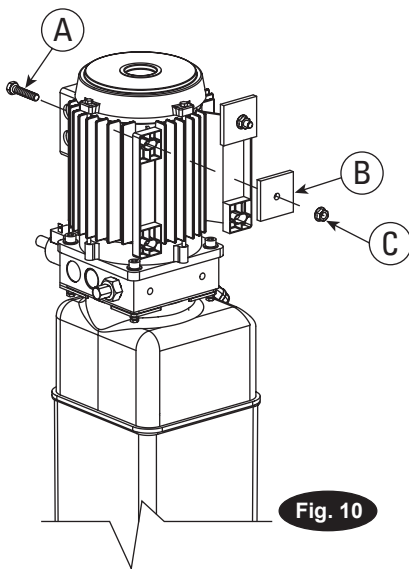

Fig. 10
Put (2) M8 x 40Lg. HHCS through top holes in power unit bracket using Vibration Pad to hold in place, Fig. 10. Install M8 flanged lock nuts until bolt end is flush with end of nut.